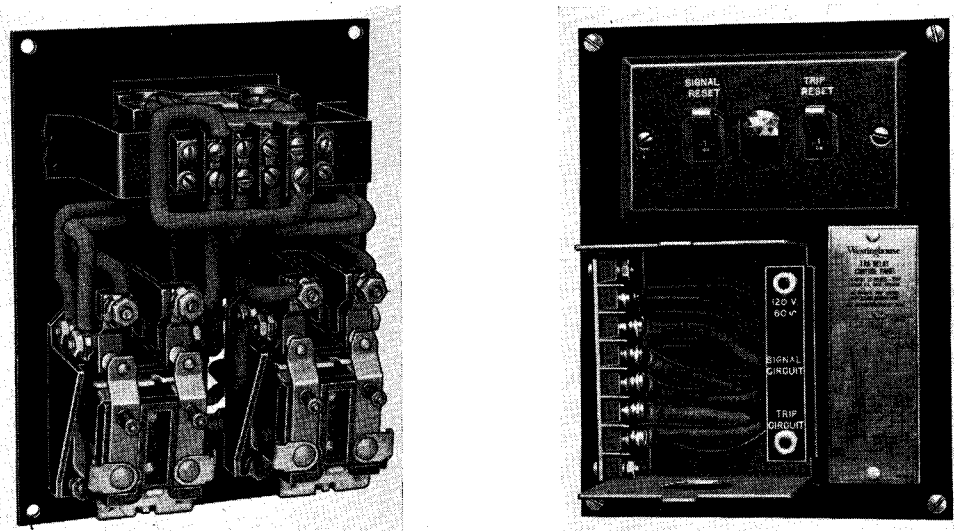

FIG. 2—CONTROL PANEL FOR TYPE TRA RELAY
5. It provides means for changing signal and trip contacts from normally open to normally closed. The control panel is shown in Fig. 2.